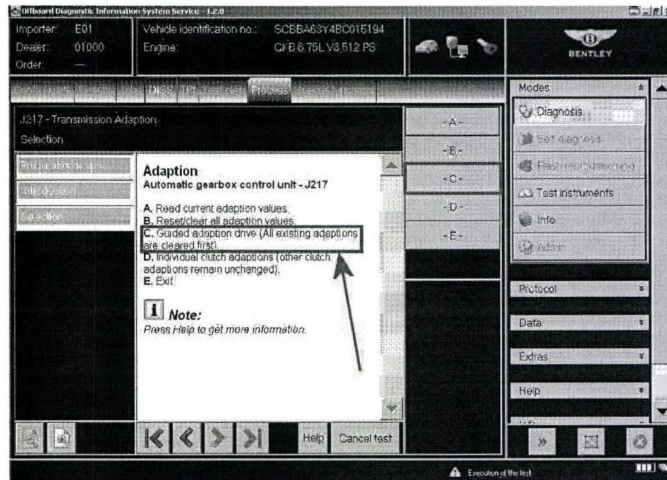
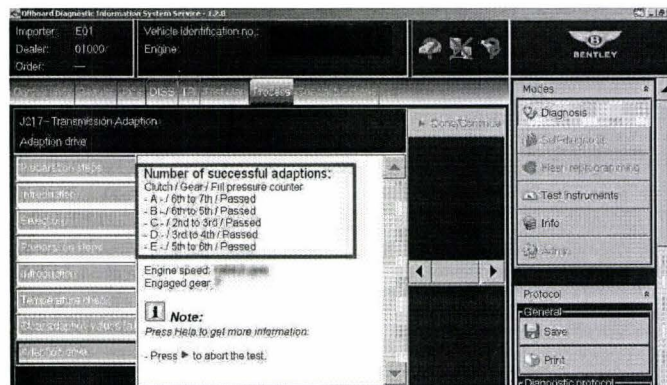

Figure 16
Figure 17
- Once at the screen shown in Figure 16, Select option **C**. Guided adaption drive (All existing adaptions are cleared first) and follow all on screen prompts until the Number of successful adaptions in all required fields have passed as shown in Figure 17